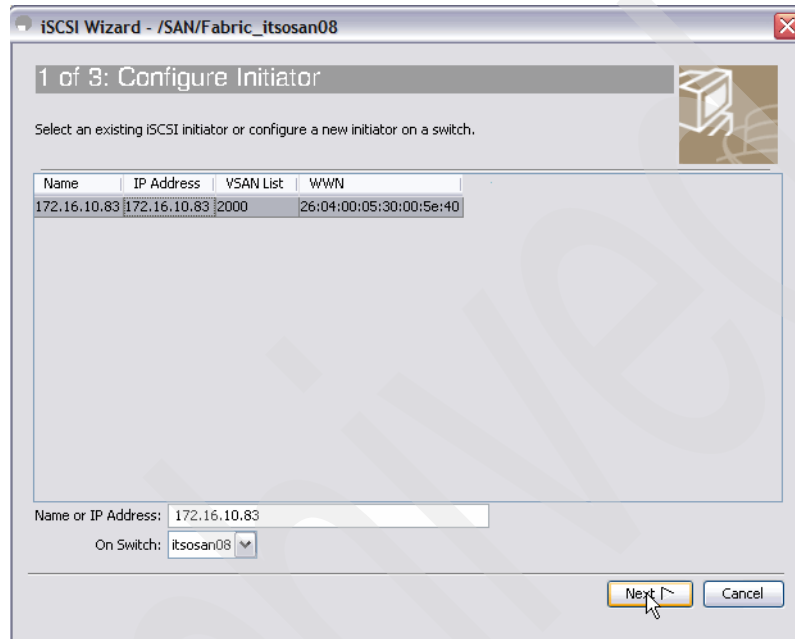

Figure 7-45 Fabric Manager iSCSI Wizard panel 1 of 3
1. A portion of our work was done when we created the initiator. A list of known initiators is displayed in the first panel of the Fabric Manager iSCSI Setup Wizard, as shown in Figure 7-45. In our example, there is just one initiator, Senegal, with IP address 10.43.86.10. We highlight it and click **Next**.